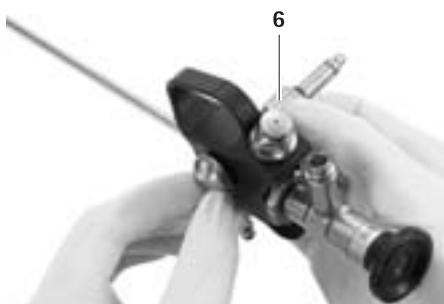

Fig. 6
- Screw on the cap nut and tighten it until adapter for holding arm 6 is fixated, see Fig. 6.